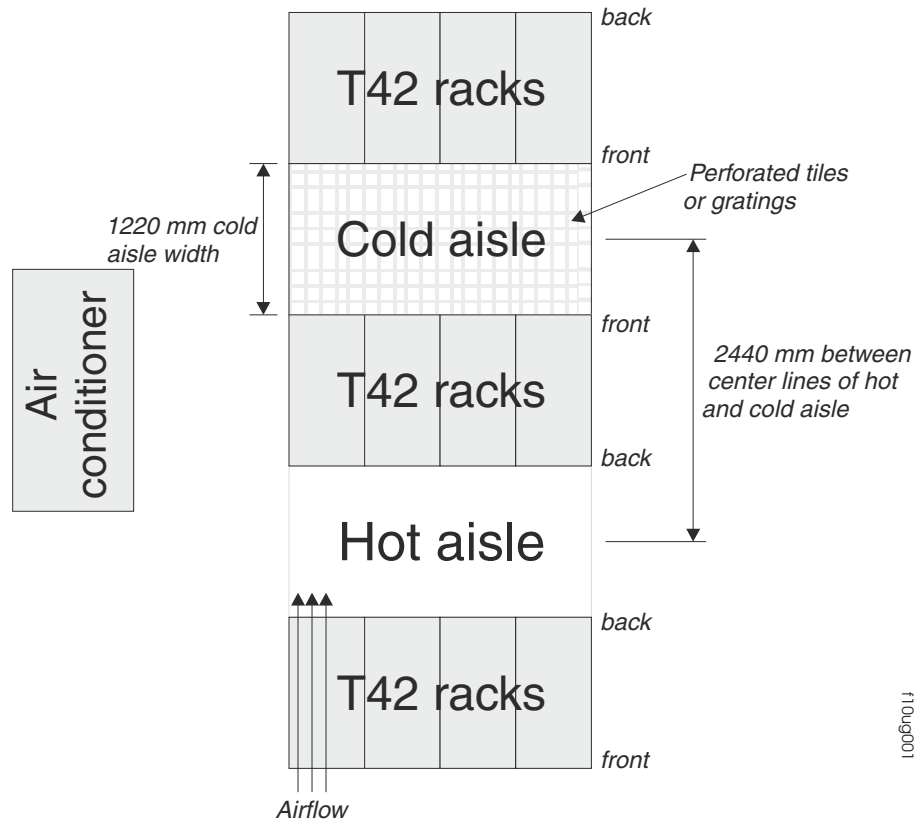

Figure 11. Example of cold aisle/hot aisle rack cabinet configuration
- Air enters at the front of the rack cabinet and leaves at the back. To prevent the air that is leaving the rack cabinet from entering the intake of another piece of equipment, you must position the rack cabinets in alternate rows, back-to-back and front-to-front. This arrangement is known as “cold aisle/hot aisle” and is shown in Figure 11 on page 29.